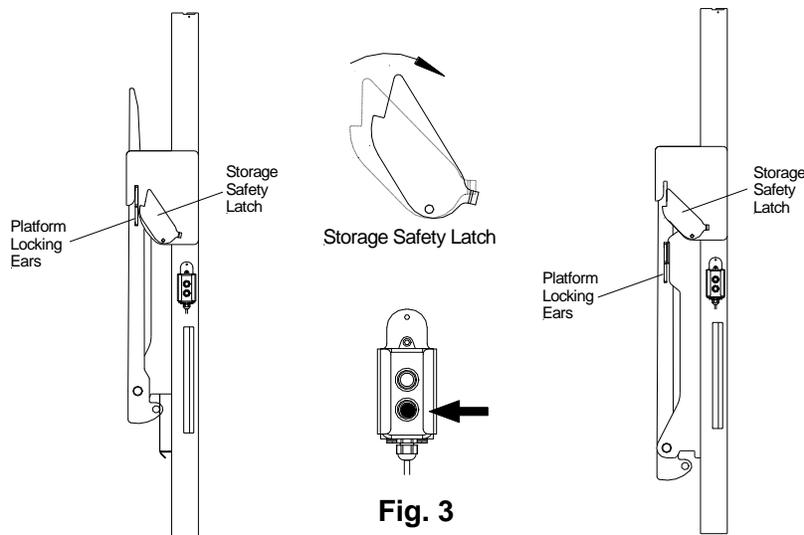

Fig. 3
2. Clear the platform sliding path by moving the storage safety latch manually. Hold the safety latch down manually with one hand and press the **Down** button on the control with the other hand until the platform locking ears clear the safety latch, **Fig. 3**. Release the safety latch back to its original place.